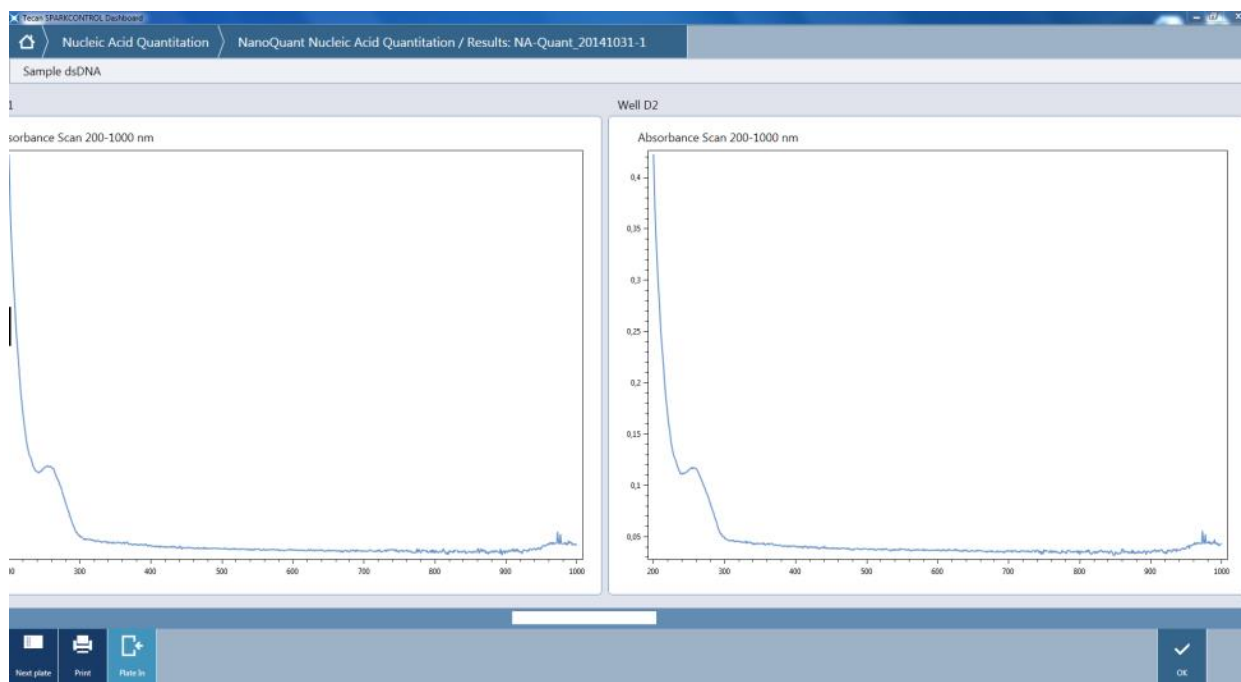

Figure 121: Absorbance scans in the Result window
- Absorbance Scan values according to the defined wavelength range. Use the slider to obtain all of the absorbance scans being measured (Figure 121: Absorbance scans in the Result window).